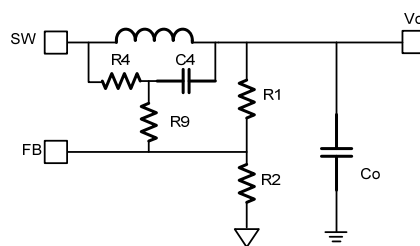

Figure 9: Simplified Circuit with External Ramp
Besides the R1 and R2 divider, the output voltage is also influenced by R4 (see Figure 9). R2 should be chosen reasonably, since a small R2 leads to considerable quiescent current loss, but a large R2 makes FB noise-sensitive. It is recommended to make R2 between 5 - 100kΩ. The value of R1 is then determined with Equation (5):